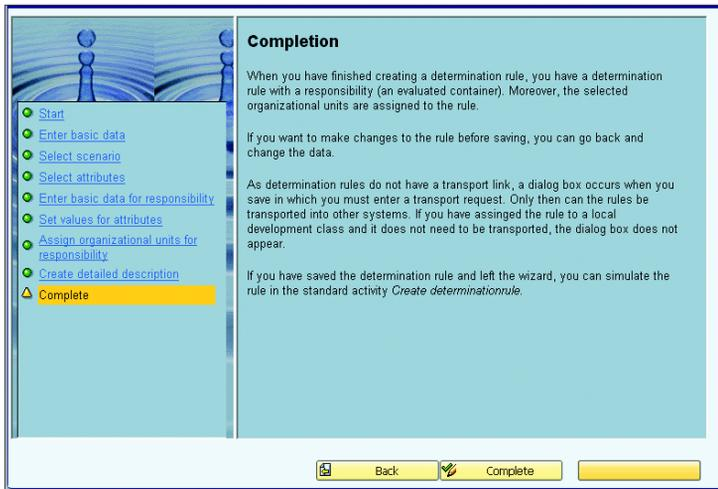

Figure 2.15 Organization Determination from Responsibility Category – Complete
8. Complete the wizard and save the rule by clicking COMPLETE (Figure 2.15).